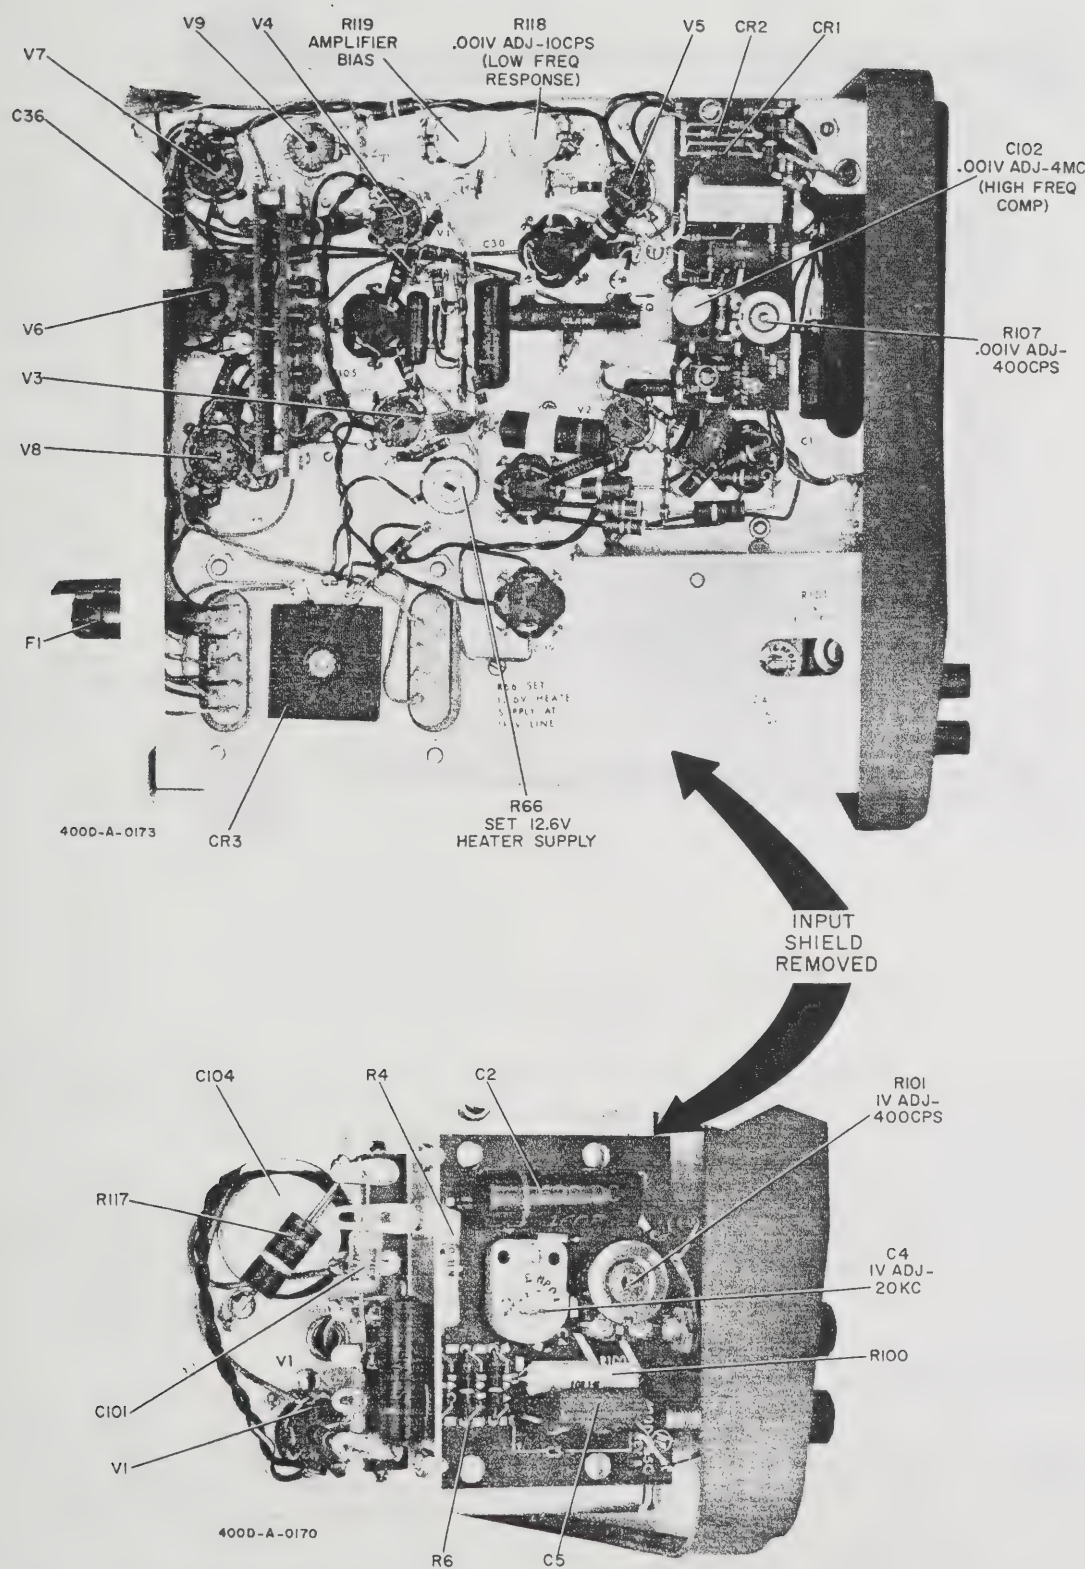

Figure 5-3. Left Side View of Voltmeter Chassis
switch assembly. Use the following procedure. (Locate parts by referring to figures 5-3 and 5-4; RANGE switch connections are shown in figure 5-9.)
d. To test the .001 volt range, set the voltmeter calibrator to .001 volt and the voltmeter RANGE switch to .001. If necessary, adjust R107 (figure 5-3) to obtain a reading of exactly 1 on the 0 to 1 VOLTS scale on the panel meter of the voltmeter under test. This sets the gain of the amplifier at audio frequencies.
e. Set the RANGE switch on the voltmeter to the 1-volt range. Set the voltmeter calibrator to 1 volt, to test this range. If necessary, adjust R101 (figure 5-3) to obtain a reading of exactly 1 volt on the voltmeter. This sets the division ratio of the input voltage divider at audio frequencies.
l. If necessary adjust C102 (figure 5-3) to obtain a reading at 0.9 on the voltmeter under test. This sets amplifier gain at video frequencies.
r. On the 1-volt range of the voltmeter, measure frequency response at both 20 kc and 4 mc using a procedure similar to steps g through k. At 20 kc if necessary adjust C4 (figure 5-3) to obtain a reading of 0.9 on the voltmeter. At 4 mc if necessary pad the value of R6 (figure 5-3) to obtain a reading between 0.85 and 0.95 ( $\pm 5\%$ ). R6 consists of several resistors connected in parallel. Increasing the value of one of these resistors raises the meter reading at 4 mc. The input shield must be in place on the voltmeter chassis when making this reading.